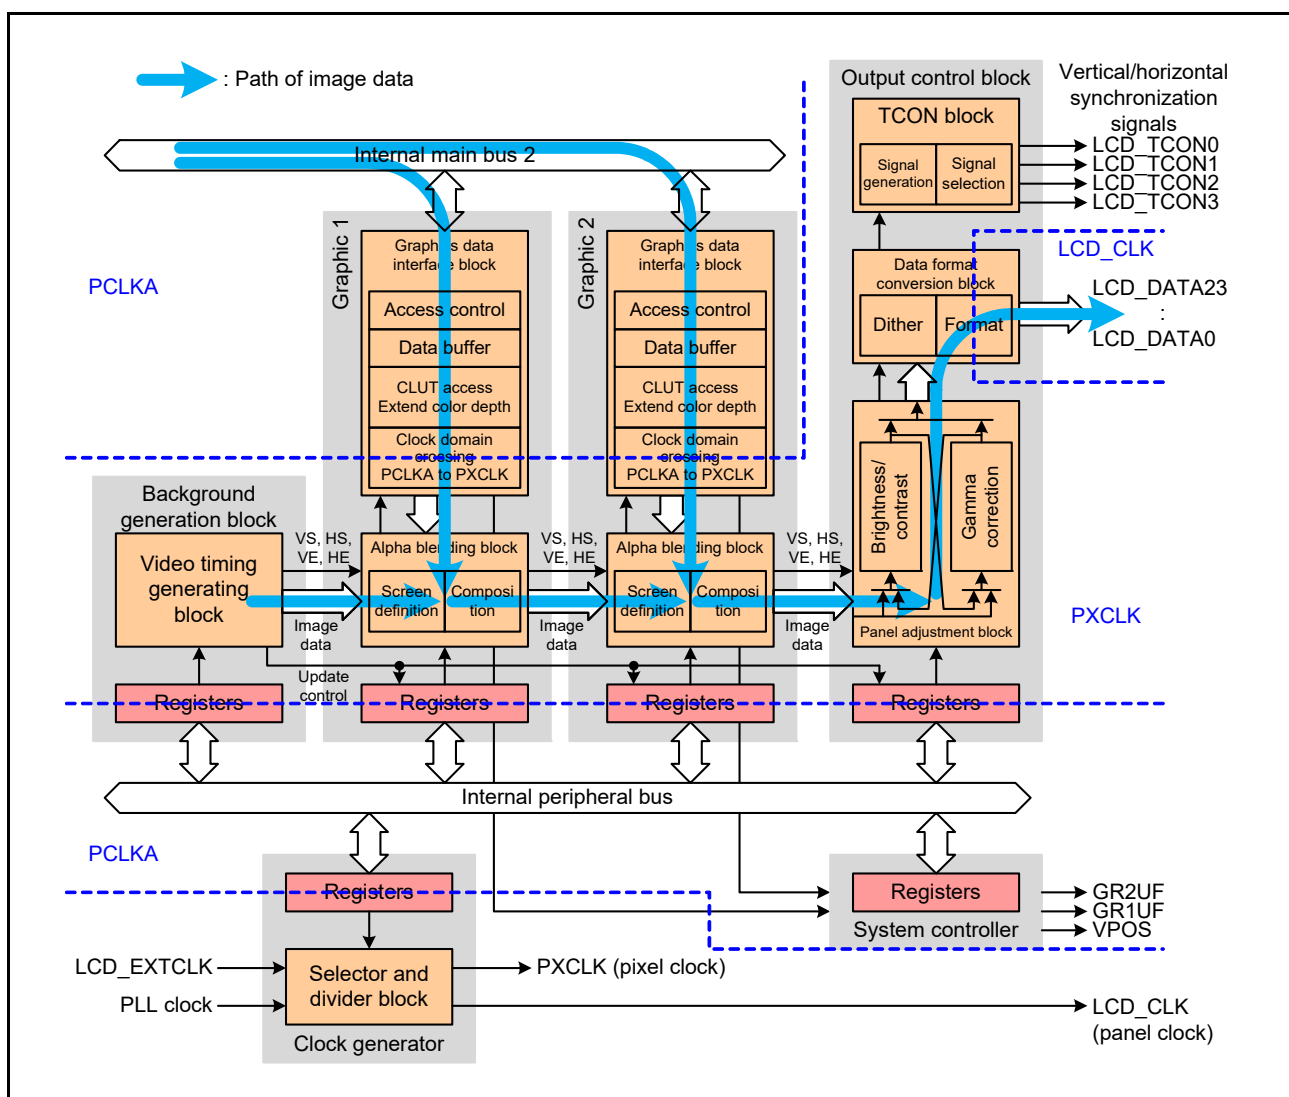
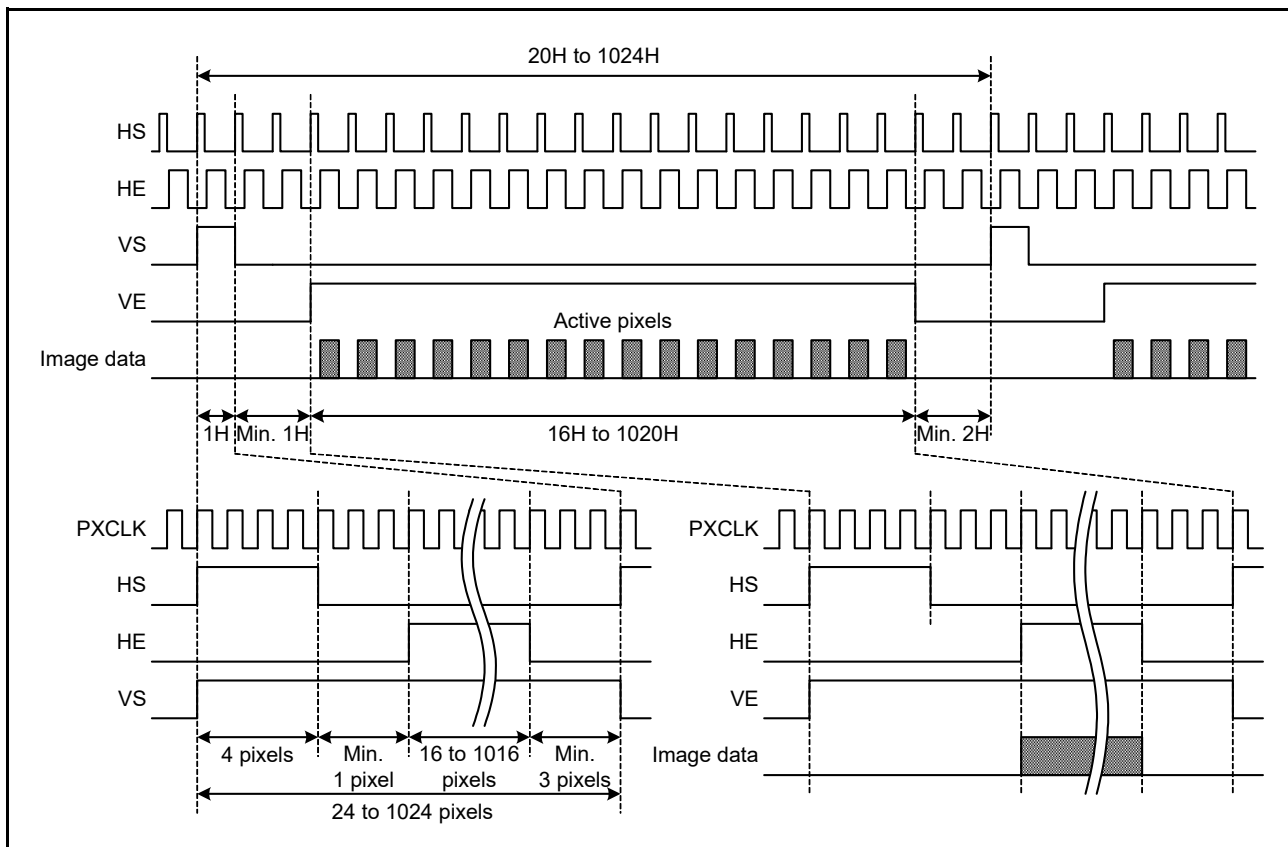

Figure 51.20 GLCDC Structure
Figure 51.21 Image Data Carrier Signals in the GLCDC
The GLCDC consists of six blocks and each block has the independent functions as shown in Figure 51.20. The vertical and horizontal synchronization signal (VS, HS, VE, and HE) and image data in the RGB(888) format shown in Figure 51.21 are conveyed between the four blocks where image data are processed.